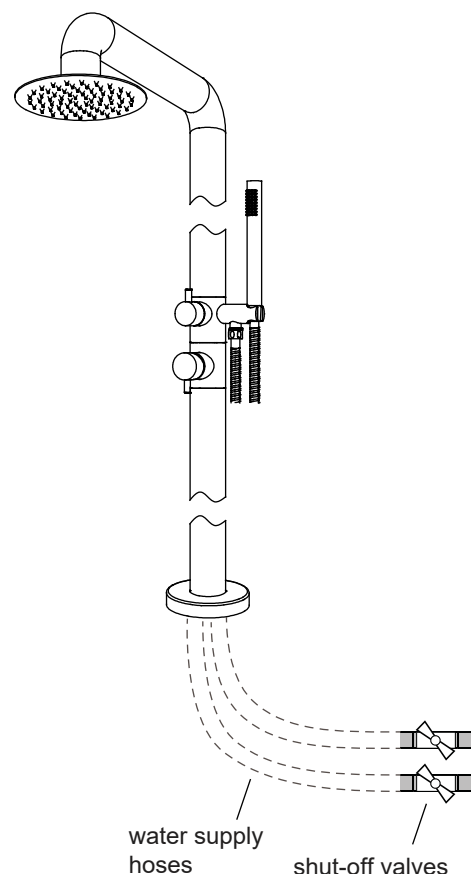

Fig 7
2. If the lowest temperature is between 32°F and 14°F at your location, you can leave your outdoor shower faucet outside. Turn the diverter handle upward and drain the water inside the faucet by removing the **Plug [27]** from the back of the faucet. Disconnect the **Shower Hose [26]** from the faucet and drain the water inside. Turn off the shut-off valves and disconnect the water supply hoses to drain the water inside. Install the **Shower Hose [26]** and **Plug [27]** back to the faucet. Reconnect the water supply hoses to the shut-off valves. (Fig 7)